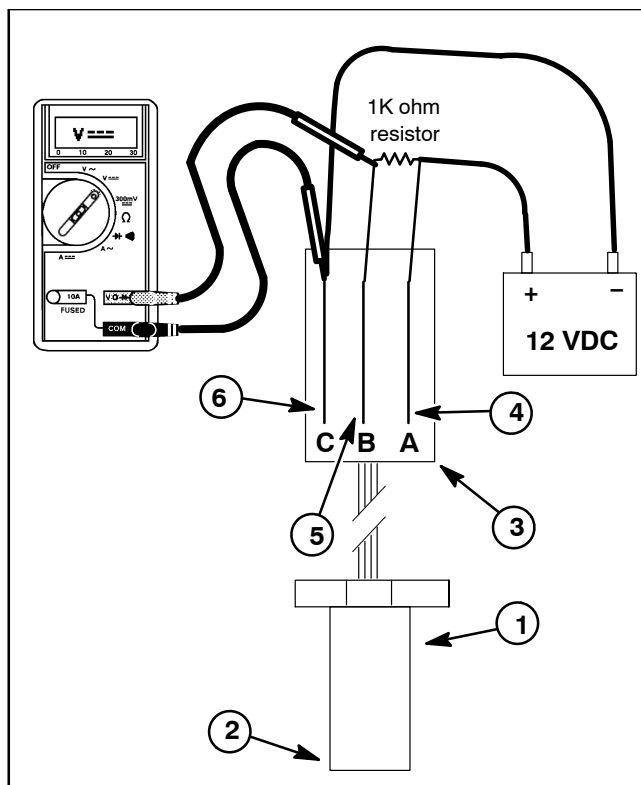

Figure 38
5. Using a +12 VDC battery, a multimeter, a 1K ohm resistor and appropriate jumper wires, connect the battery and multimeter to the speed sensor using Figure 38 as a guide.